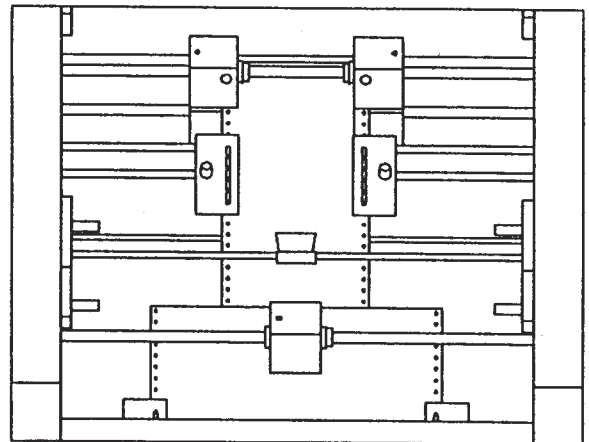

Fig. 16
3. Jog forward and guide forms through paper guides to second set of tractors. Allowing forms to merge together. (Fig. 16)